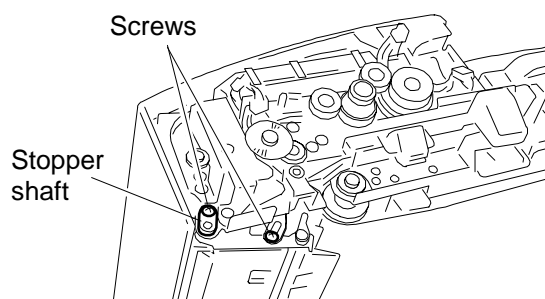

Fig. 7
- 6) Open the ADF, remove the 2 screws from the front face, and take out the stopper shaft. (Fig. 7)